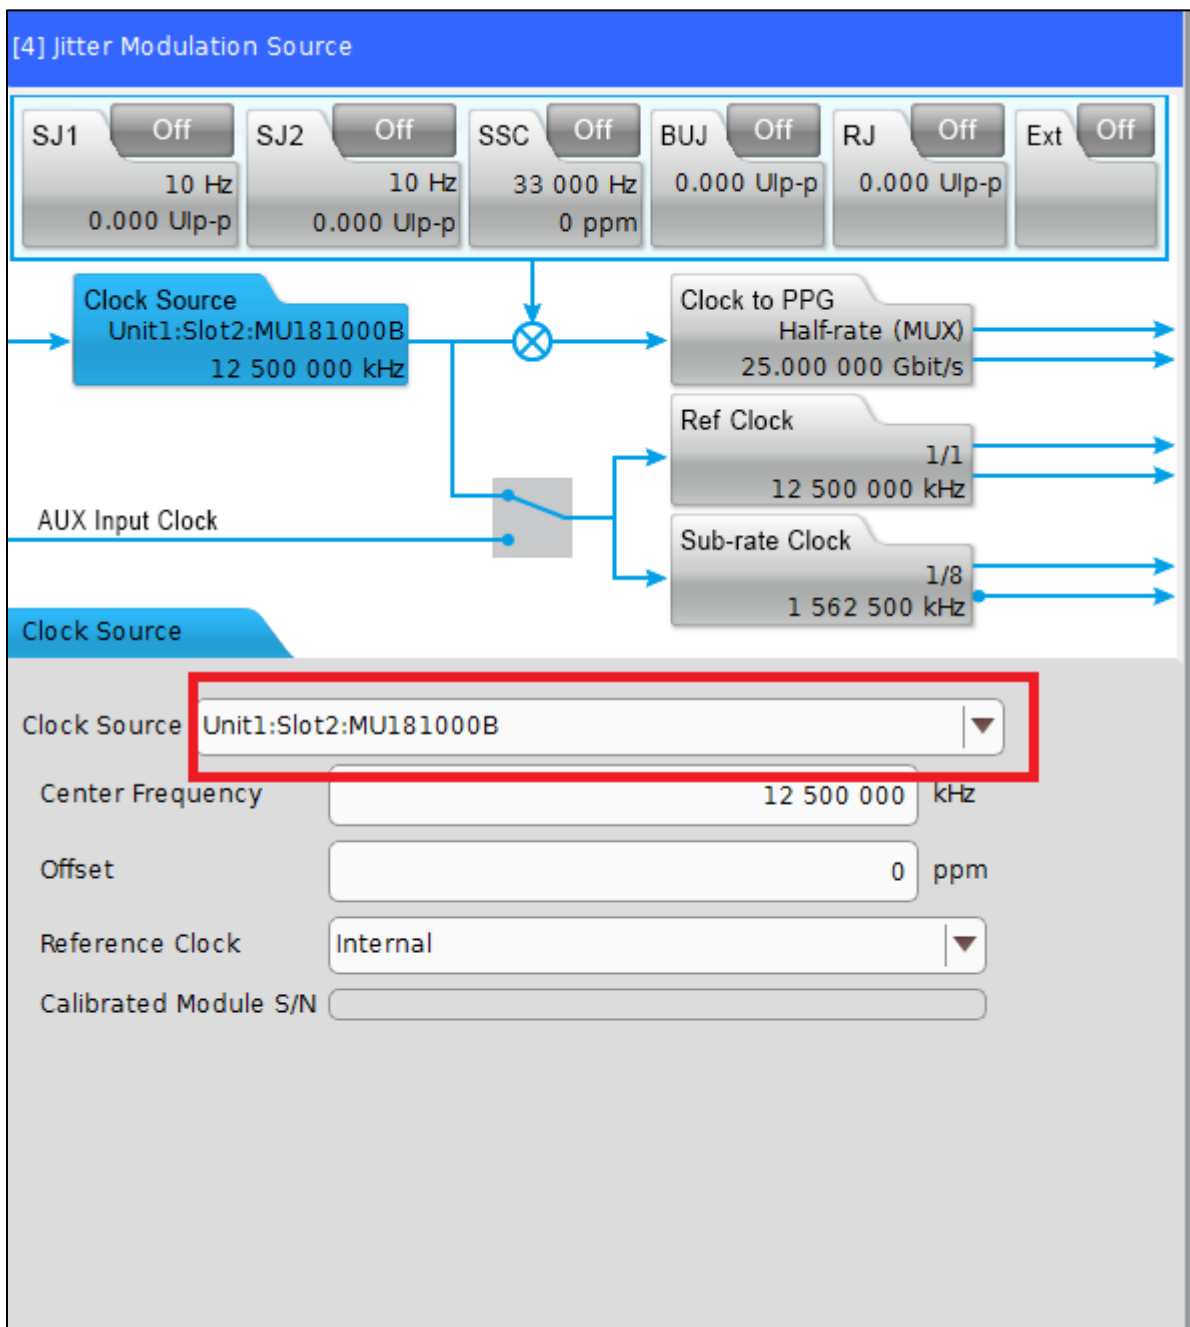

FIGURE 44. JITTER CLOCK SOURCE SETTING
- b) Go to Jitter tab and set Clock Source to “Unit1:Slot2:MU181000B”. See Figure 44.